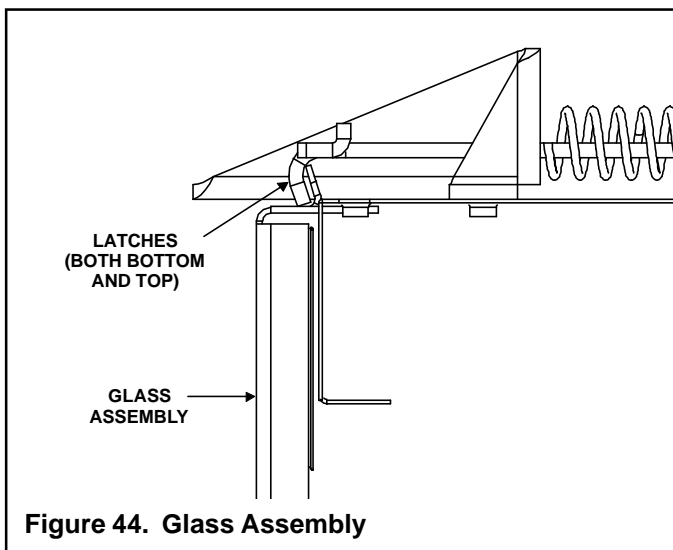

Figure 44. Glass Assembly
- Pull the four glass latches out of the groove on the glass frame. Remove glass door from the unit (see Figure 44).